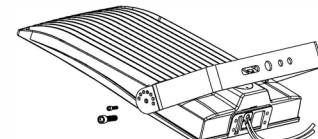

Figure 9
Step 1. First install two large screws (Figure 9)